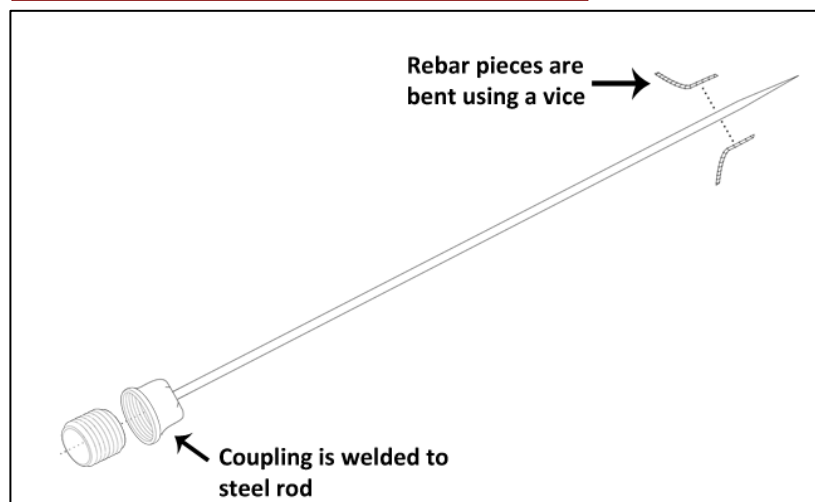

Figure 30 - Exploded view of rescue tool
- iv. Using a 3m section of 1" steel pipe along with rubber strapping (tire tube rubber), secure the well casing to a secured object such as the derrick or heavy timber. Lay the steel pipe on the ground, perpendicular to the well, using rubber strapping to tie to the casing and to the secured object. This will ensure the casing does not "pop" out of the borehole due to its buoyancy. Alternatively, rubber strapping attached to steaks or a piece of timber can help secure the casing as well (Figure 30).